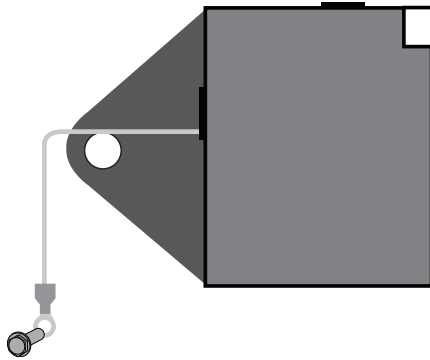

fig. 14
8. Attach a ground terminal to the small white wire coming out of the back of the ECU/ Display Connector (Fig. 14).